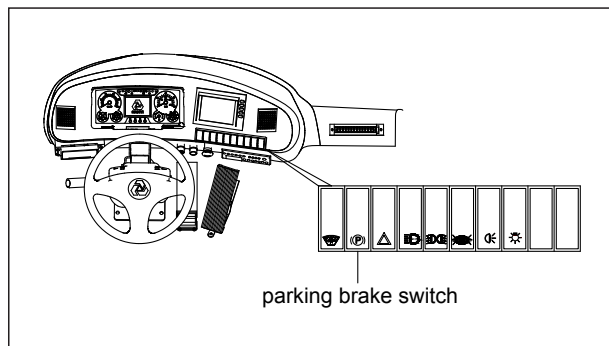

Fig 4.23
1. Make sure the rocker switch is in the 'PARK' position. (see Fig4-23).